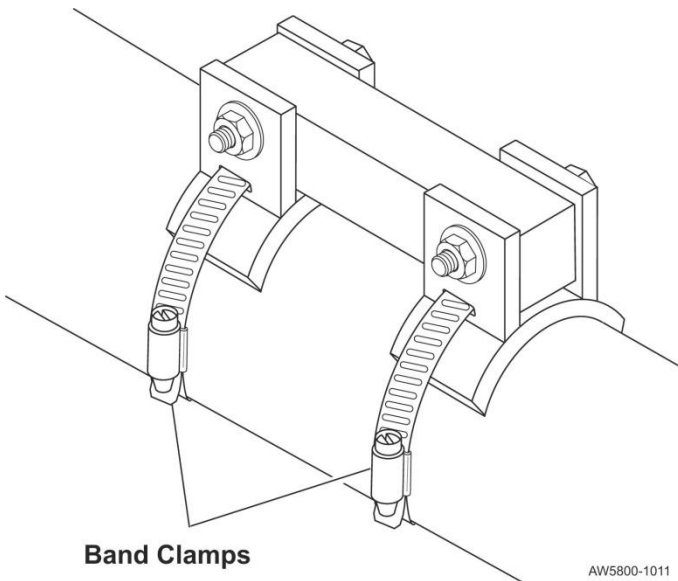

Figure 10. Attaching Band Clamps
- C. Place a band clamp (P/N: 139-0016-000) through the slot in the bottom of each bracket and wrap band clamp around trunnion tube. See Figure 10, next page.